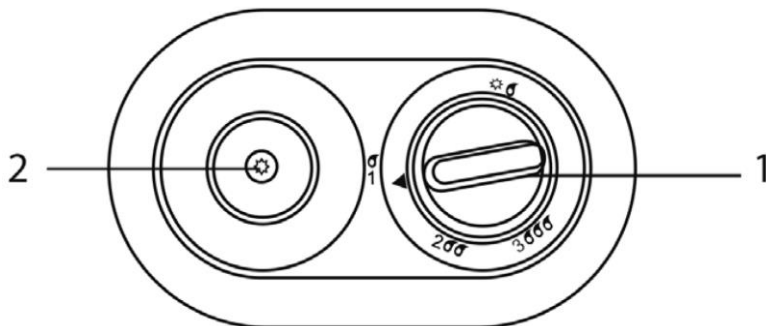

Fig. 2
2. Press and gently turn the gas adjustment knob on the control panel to the (1σ) position (Fig. 2). Continue to hold down the gas adjustment knob for 20-30 seconds. Press the piezo ignition button several times at a time until the gas burner lights up. Each time you press the piezo ignition button, you can hear a